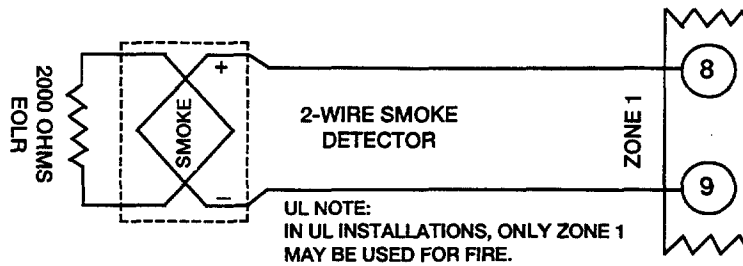

Figure 7. 2-Wire Smoke Detector Connected to Zone 1
1. Connect 2-wire smoke detectors across zone 1 terminals 8 (+) and 9 (-). Observe proper polarity when connecting the detectors (see Figure 7).